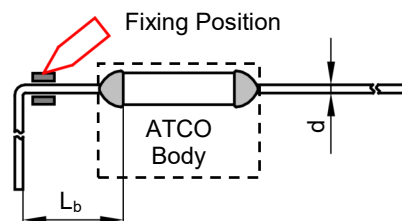

FIGURE V-2
2. When bending leads, please use pincher or similar tools to fix the product as shown in Fig.V-2, to avoid damaging the product.